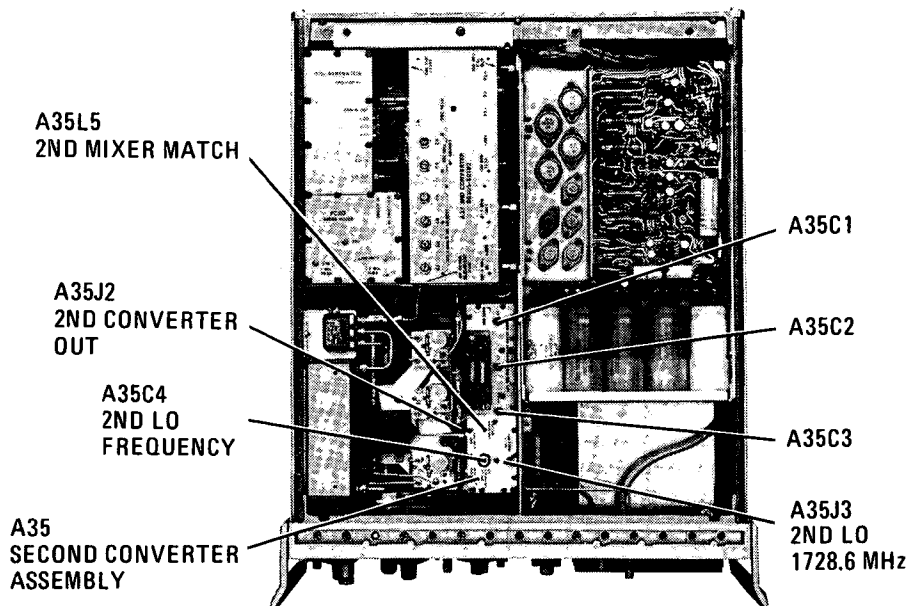

Figure 5-33. Second Converter Adjustment Locations
3. Connect frequency counter through modified adapter (HP 08565-60087) to A35J3 2ND LO (Figure 5-33) and adjust A35C4 2ND LO FREQUENCY for 1728.60 ± 0.1 MHz.